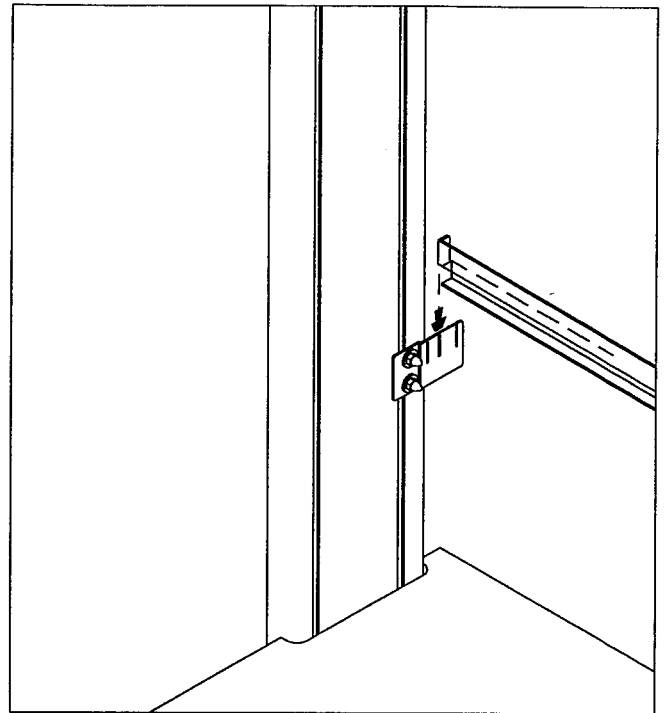

FIGURE 1
- Locate holes to be drilled. (See fig. 1)
- Drill four (4) 5/16" diameter holes. Drill slowly until the drill has passed through the laminate coating.